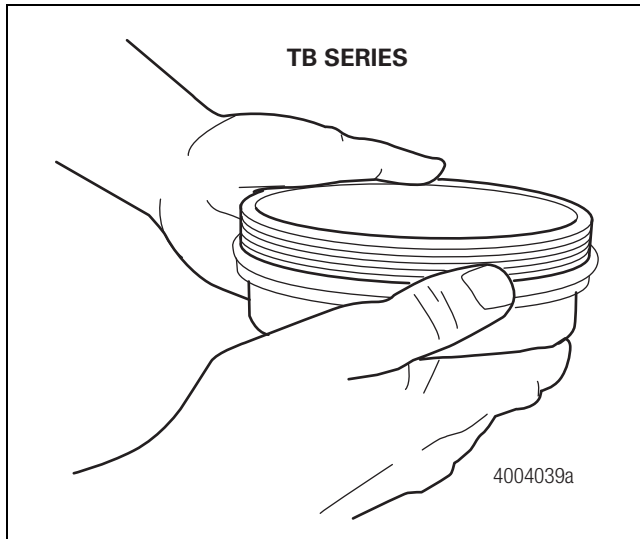

Figure 2.10
4. On the TB Series, check the hubcap O-ring for splitting or cracking. Figure 2.10.